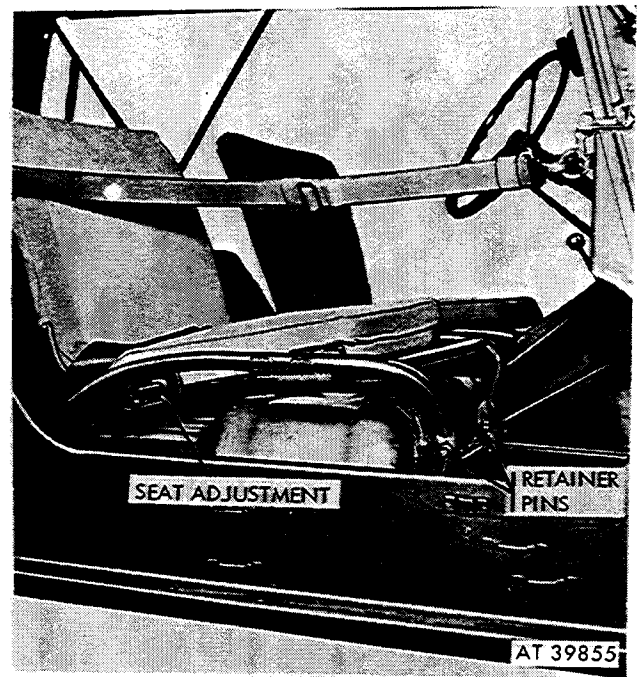

Figure 2-405. Front seat removal.
**c. Front Seat Frame.** The front seat frames are identical and constructed of tube welded steel. Remove three retaining pins to remove frame from floor (figs. 2-405 and 2-406).